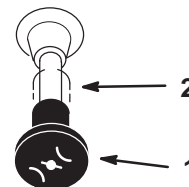

Figure 11
4. Move the choke control to the on position before starting a cold engine (Fig. 11).
7. After the engine starts, move the choke to Off (Fig. 11). If the engine stalls or hesitates, move the choke back to On for a few seconds. Then move the throttle lever to the desired setting. Repeat this as required.